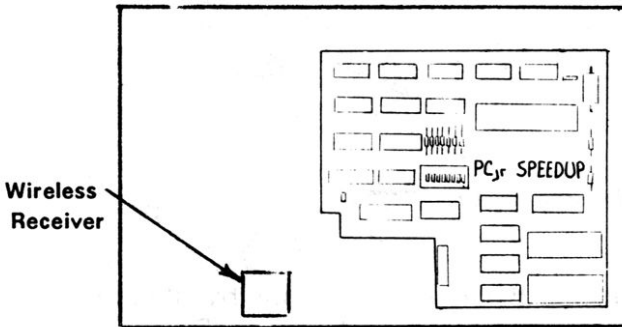

Figure 10
- 14 Carefully position the jrExcellerator as shown in figure 10 - then press into the microprocessor's socket. Make certain none of the pins overlap the left or right edge of the socket.
- 17 Remove the PCjr's Wireless Receiver by pulling it straight up and out. The Wireless Receiver is located behind the round hole in the front panel of the PCjr and resembles a metal box (figure 10).